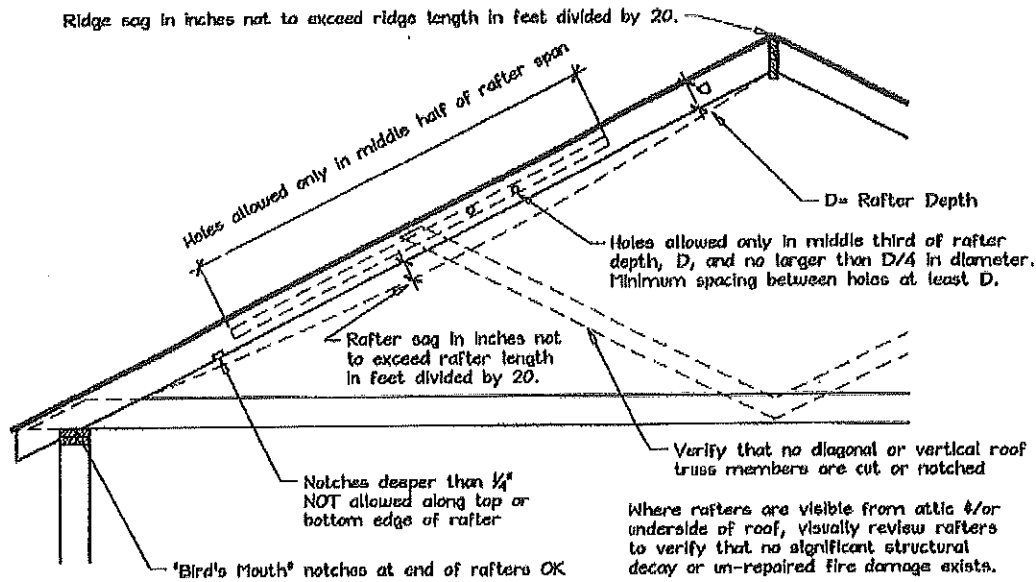

Figure 1. Roof Visual Structural Review (Contractor's Site Audit) of Existing Conditions.
2) Does the roof structure appear structurally sound, without signs of alterations or significant structural deterioration or sagging, as illustrated in Figure 1? ☐ Y ☐ N